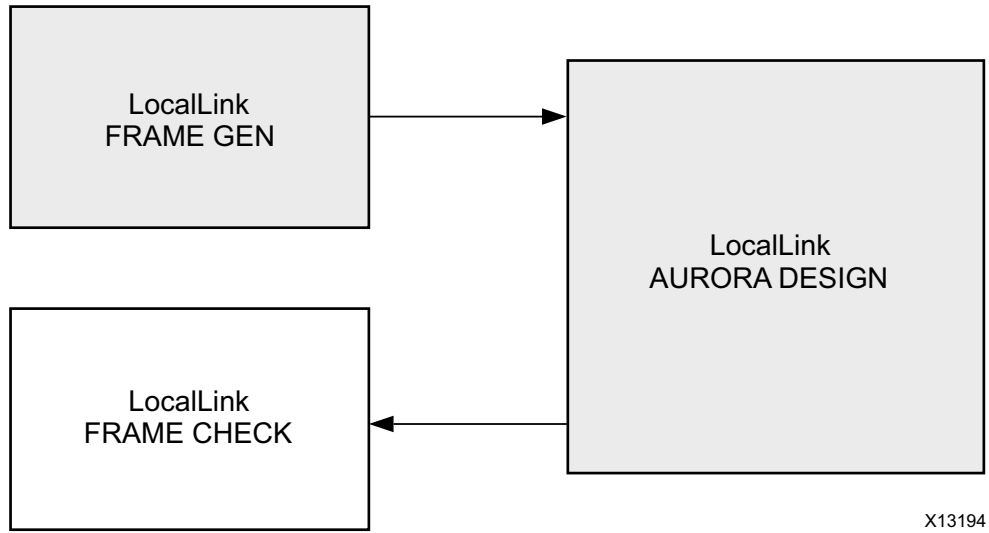
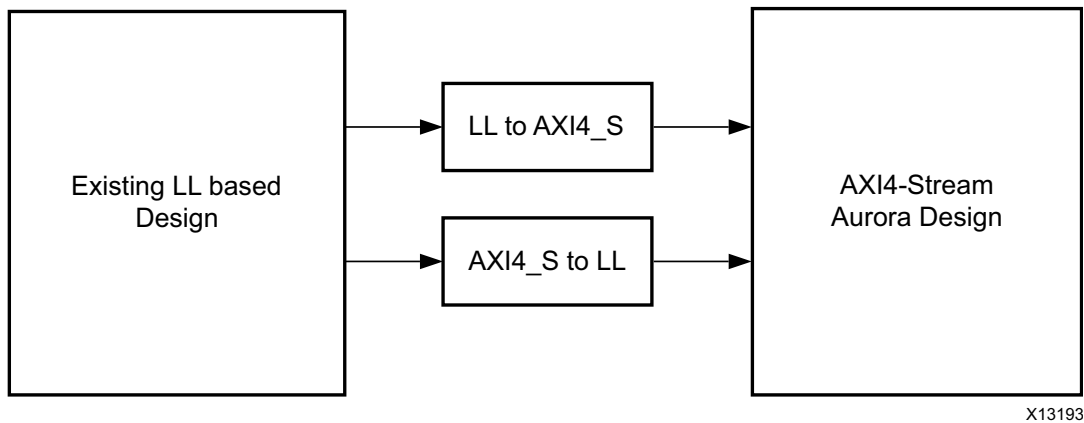

Figure B-1: Legacy Aurora Example Design
Figure B-2: AXI4-Stream Aurora Example Design
Figure B-1 shows an example Aurora design using the legacy LocalLink interface. Figure B-2 shows an example Aurora design using the AXI4-Stream interface.
2. See Figure B-2, page 93 for the emulation of an LL Aurora core from an AXI4-Stream Aurora core.
5. Connect the shim and AXI4-Stream Aurora design as shown in Figure B-2, page 93.